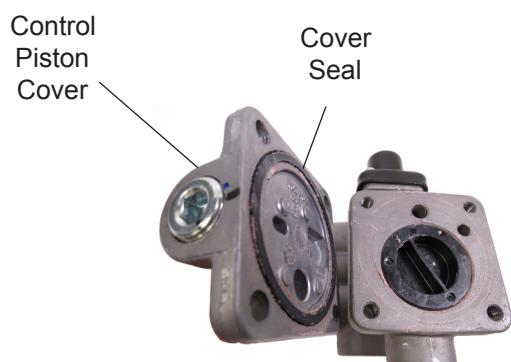

Figure 6 – Cover Seal
4. Exercise caution to prevent damage to the cover seal as shown in Figure 6.